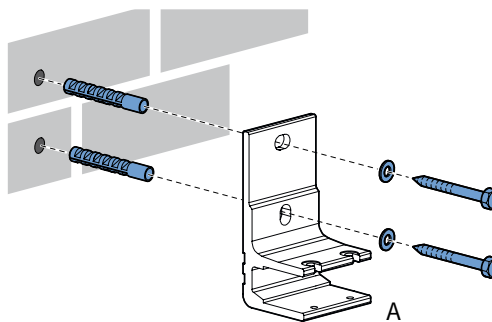

fig. 1.3a Installation of wall support
Drill the installation holes. Our advise is to drill with a 14 millimeter masonry drill in case of a wall made of concrete or stone. Use matching plugs and bolts of high quality. Install the wall supports (A) and, if necessary, the center support(s) (B) and tighten the bolts. See figure 1.3a.